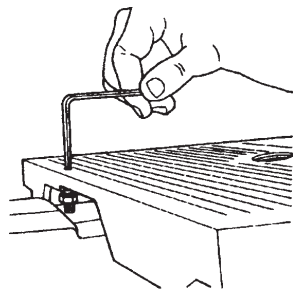

Figure A-22
6. If the blade is square to the table, use a 5/32" Allen wrench to adjust the table height screw (91) to touch the Bandsaw casting. If the blade is not square to the table, loosen the trunnion, make the necessary adjustment and lock the trunnion. Now adjust the table height screw. See Fig. A-22